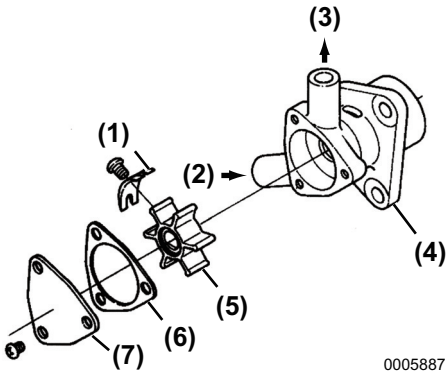

Figure 1
3. Loosen the three bolts holding the side cover **(Figure 1, (7))** of the seawater pump. Remove the cover and drain the seawater from the pump body **(Figure 1, (4))**. Reinstall the cover and retighten the bolts when finished.